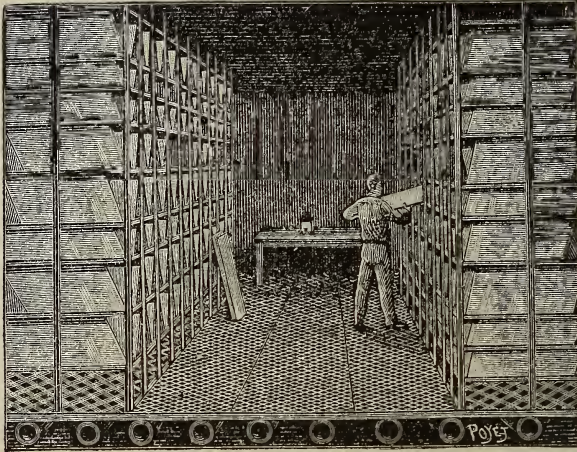

FIG. 2.
WE will assume that a number of exposures out of the twenty-four have been made, and it is desired that they be separated and removed from the supply spool for the purpose of development; taking the holder to the dark room and removing the outer case, we sever the exposed portion of paper on the reel and on the exposing platform by simply drawing the point of a knife lengthwise on the measuring guide roll in its metal-lined groove (see Fig. 2).\* By counting four dots from the end, we come to the end of one exposure. The paper is next drawn by the hand to the right until the fourth pair of dots are brought over the groove, when the sheet is readily separated as before. Instead of cutting off the exposed sheets in this manner, they may be severed by shears. The reel containing the exposed paper may be bodily removed from the frame in the same manner as the supply spool and another inserted, and the unexposed paper attached to it, as in Fig. 5, when new exposures may be wound upon it as before.
3. *Drying the Glasses.*—At the end of the table the glasses are taken and placed in the drier (Fig. 2). It is composed of shelves of wood in an apartment which has a ventilation seldom applied until now. The air from outside is